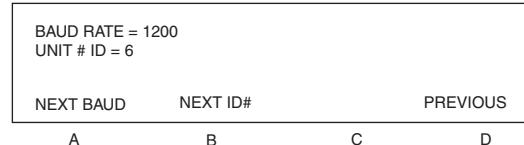

Figure 3-5 Serial option menu
3. Press number 1, SERIAL OPTION. The serial option menu, Figure 3-5, will be displayed.